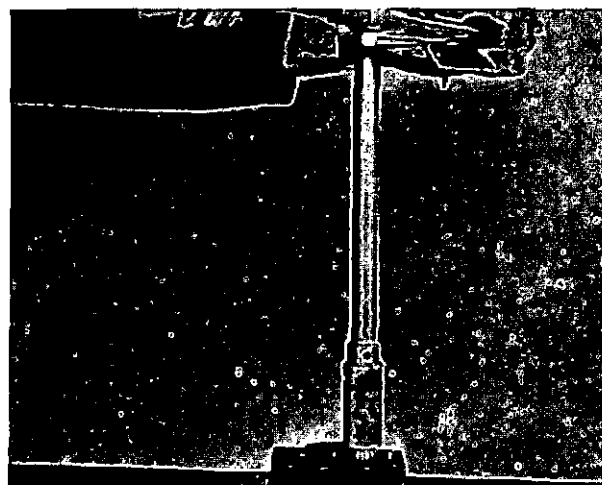
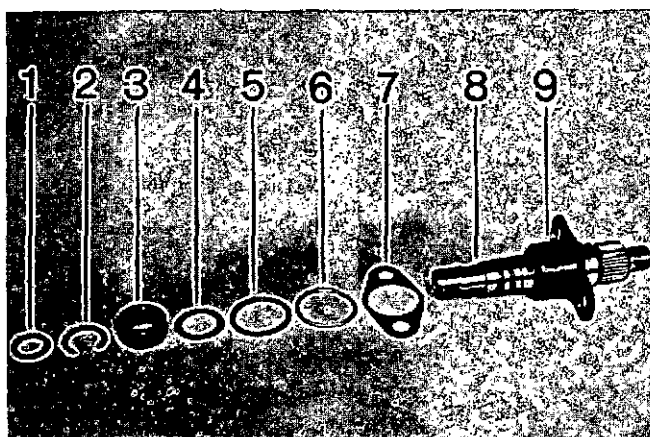
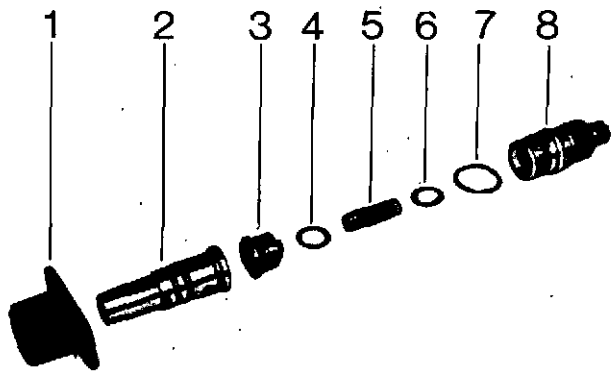

Fig. 26 Tightening connector
Fig. 27 Mounting components - barrel to pump casing
Fig. 25 Barrel delivery valve assembly - exploded
- (a) Using mounting device 1 682 310 031 clamped in a vice, refer to fig. 25 and fit flange bushing (1); then insert pump barrel (2) so that the notch on its collar engages with the peg inside the flange bushing (the barrel must drop into position under its own weight). Assemble delivery valve (3), joint (4), spring (5) and washer (6). Fit 'O' ring (7) to connector (8) and screw the latter into the flange bushing (1). Finally, torque - tighten the connector to between 51 and 58 lbf.ft. (69 to 79 Nm) using socket 1 687 950 062 (fig. 26).
- (b) Refer to fig. 27 and slide washer (4) on to pump barrel (8) until it abuts against flange bushing (9); then assemble baffle sleeve (3), with its offset radial drillings away from flange bushing (9), and fit circlip (2). Finally fit Viton ring (1) to the lower groove of the pump barrel.
Again referring to fig. 27, the 'O' ring (5), nylon ring (6) and phasing shims (7) are not fitted until the barrel/delivery valve unit is assembled to the pump housing (Operations 4 and 5).
4. Fit a greased 'O' ring, nylon ring and shim (fig. 27, Items 5, 6, and 7) to each port (fig. 30). NOTE: On pumps with numbers prefixed '626' and later the nylon ring is superseded by a steel ring permanently pressed on the flange bushing (fig. 25, Item 1), the port recesses are deeper, and protruding two-piece shims are used.